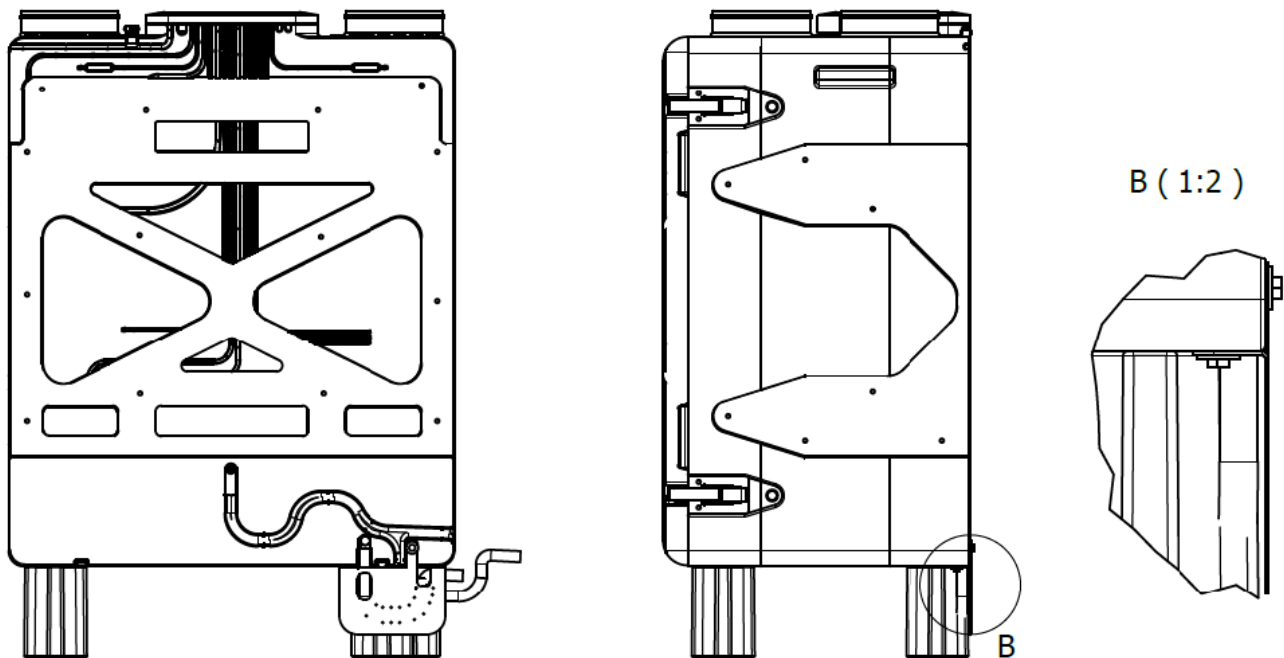

Figure 9 – siphon installation (floor mounting)
- Make siphon with elastic pipe and siphon mounting plate. **NOTE:** if you using feet pipe should be mounted on backside of plate. (see figure 9)